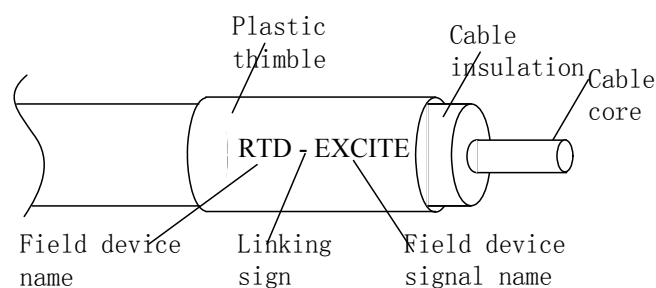

Figure 2-26 Serial Number of Signal Cable to Field Device
Step 5: Serial number is put up to the signal cable end close to equipment (Fig 2-26). Select plastic thimble according to the size and color of the signal cable, and set the plastic thimble at the signal cable (The serial number of figure means “ The signal connects with EXCITE terminal of RTD).